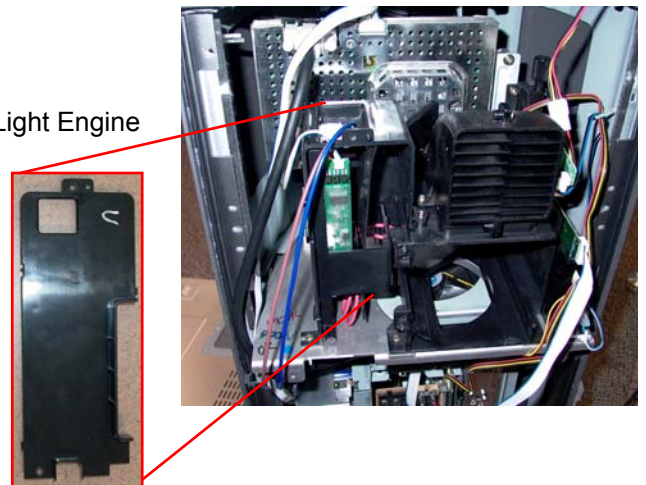

Figure 2
3. Remove the Plastic Ballast Cover and pull back the Light Engine Assy as displayed in figure 2.